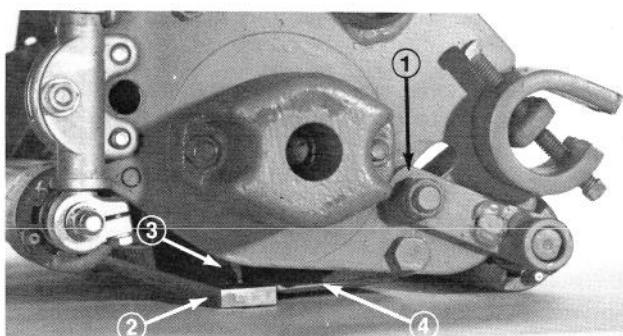

Figure 16
- Mount rear roller and height-of-cut brackets onto cutting unit. For height-of-cut settings 1/4 inch (6 mm) or below, set one bracket in the side plate to 1/8 inch (3 mm) from bottom of the slot and tighten nut on the capscrew. Leave bracket on the other side mounted loosely (Fig. 16). Above 1/4 inch (6 mm) height-of-cut, center bracket in slot and tighten nut.
2. Place a 1/4 inch (6 mm) or thicker plate under the reel blades and against the cutting edge of the bedknife (Fig. 16).